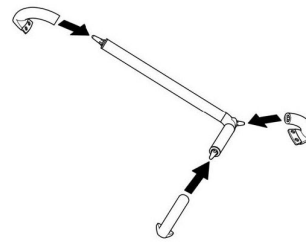

Fig. 5
1. Only for H146: Attach the wall-mounting elements to the handle bar (Fig. 5).